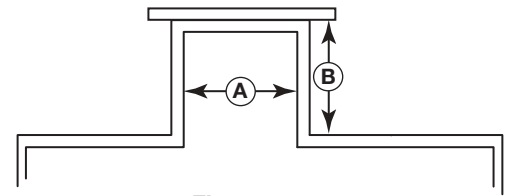

Figure 4
1. Nozzle must be 2" (50 mm) diameter (A) or larger.
2. Ratio of diameter (A) to length (B) is 1:1 or greater. Any ratio < 1:1 (e.g. a 2" x 6" nozzle = 1:3) can be used but may increase the DEADBAND of the instrument. See Figure 4.